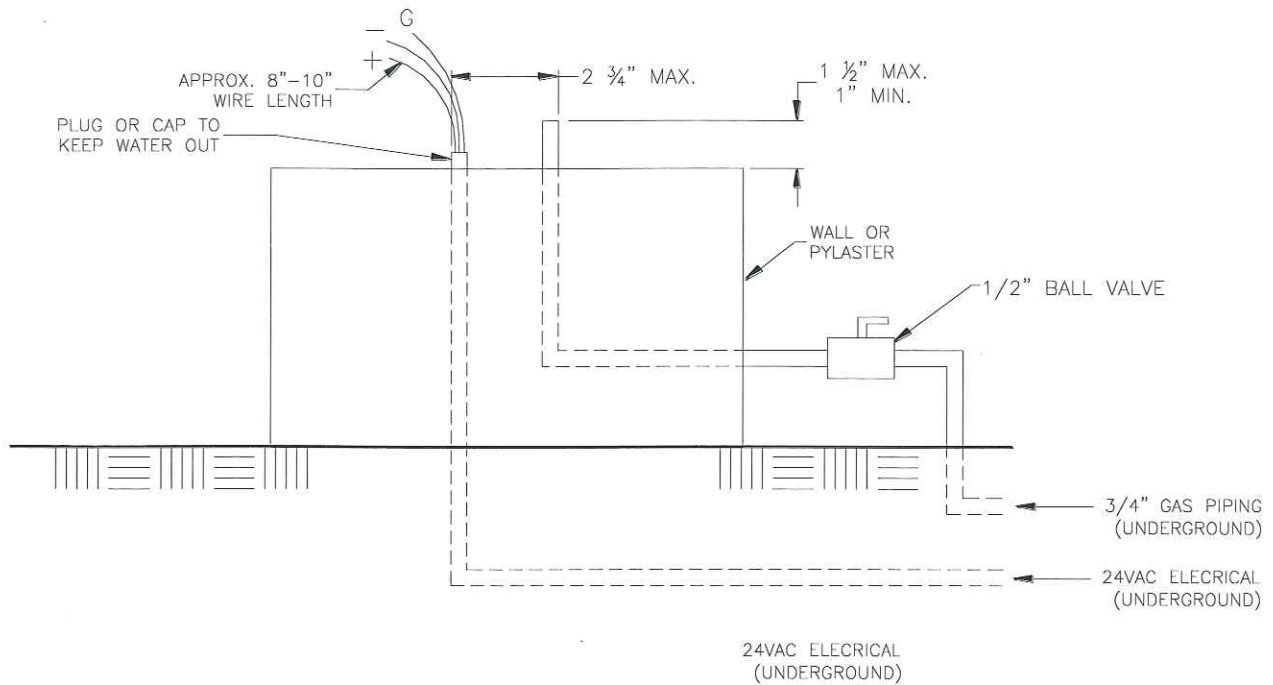

Figure 2
- 2.7 The gas piping shall be installed underground between the Control Panel and each Fire Bowl as shown in Figure 1. The piping shall be reduced to 1/2" NPT or larger near each bowl as shown in Figure 2.
Note: The gas and electrical connection at each Bowl must be located at the center of each Bowl. The connections must be installed as shown in Figure 2.